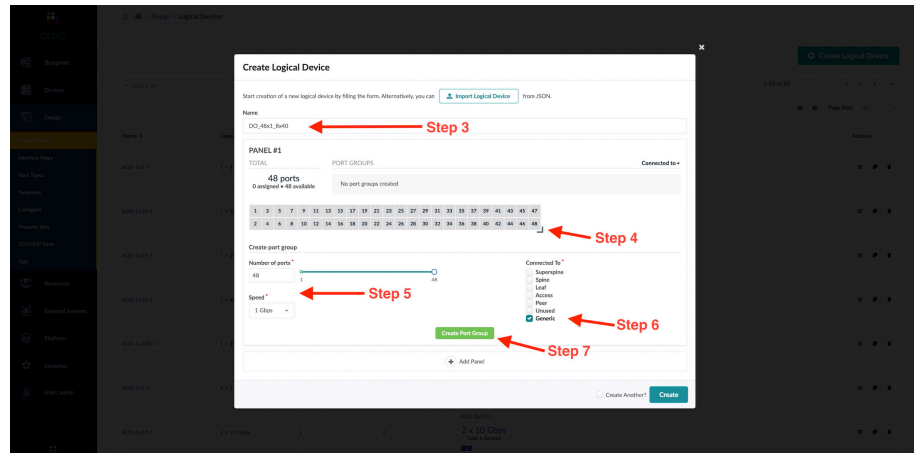

Figure 2.5
Step 3: Name the Logical Device. (Figure 2.5)